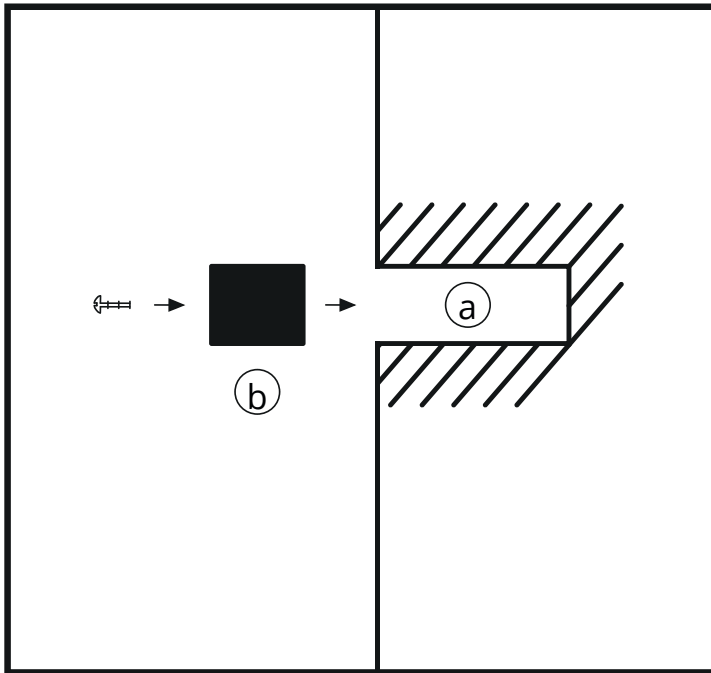
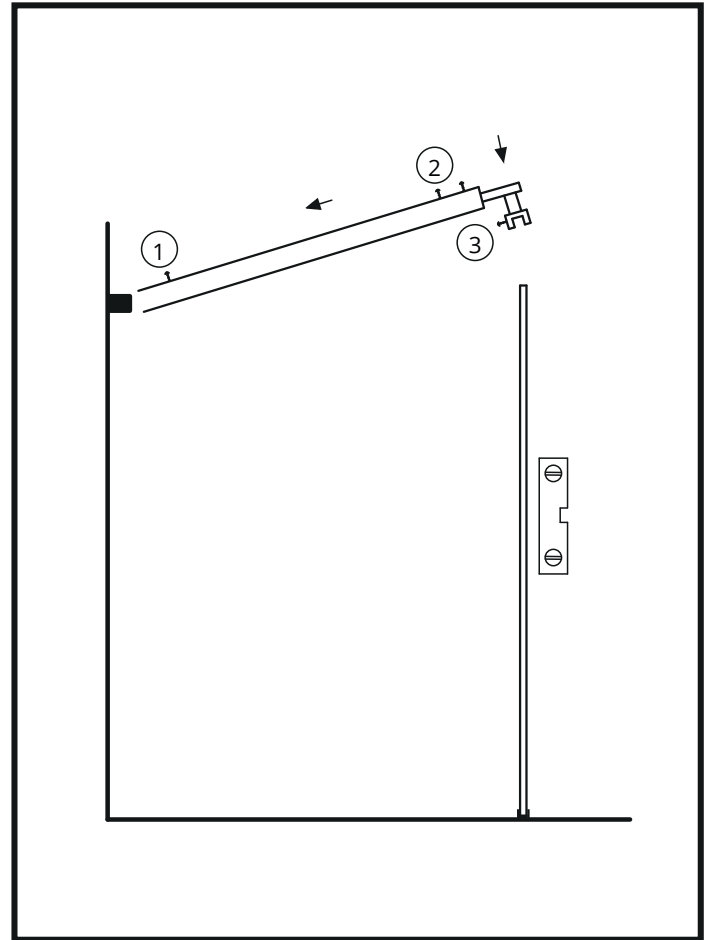

Figure 10
Figure 11
21. Place the included gaskets into the mounting clamp (3), between the parts that go over the glass and U-profile, to ensure the glass does not touch the metal. (Figure 11)
23. Mark the spot on the wall for drilling the mounting hole (a) (see Figure 10), and remove the telescopic tube.
24. Drill the hole for the dowel (a) at the marked location, remove any dust from the hole, and insert the dowel. (Figure 10)
25. Unscrew the screw (1) on the telescopic tube (see Figure 11) and remove the wall-mounted part (b) (see Figure 10).
26. Insert part (b) into the previously drilled hole (a) in the wall and secure it with a screw. (Figure 10)
27. Take the telescopic tube and carefully insert the wall mounting (b) into it. Support the other end (3) at the planned position, resting on the glass and U-profile. (Figure 11)
28. Tighten and secure screw (1). NB! The mounting point must be oriented upwards!
29. Secure the telescopic mount to the glass with screw (3). NB! It is important that you have previously installed the gaskets included in the set between part (3) Metal parts must not come into contact with the glass, as this may cause the glass to break.
30. Adjust the glass using a level and secure the telescopic tube with screws (2), with their heads facing upwards.